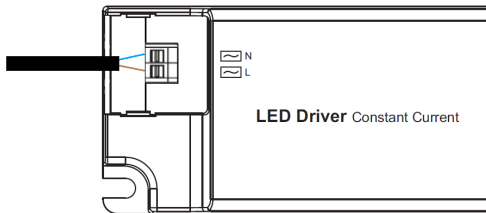

Fig. 1
- Connect the luminaire to the mains supply ensuring the correct polarity is observed (see Fig. 1): L - Live (Brown) and N - Neutral (Blue)